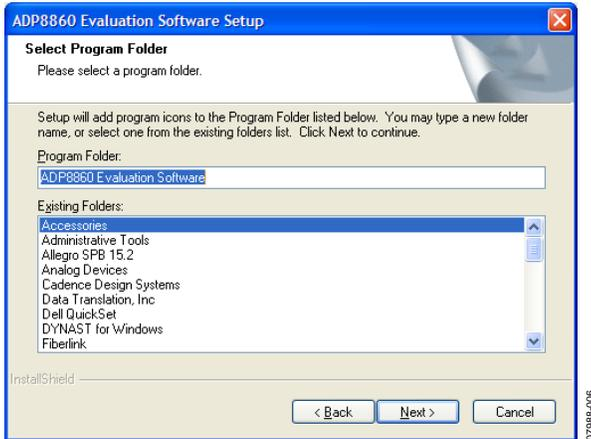

Figure 6. Select Program Folder
5. Click **Next**> to install the program to the default program folder (see Figure 6).